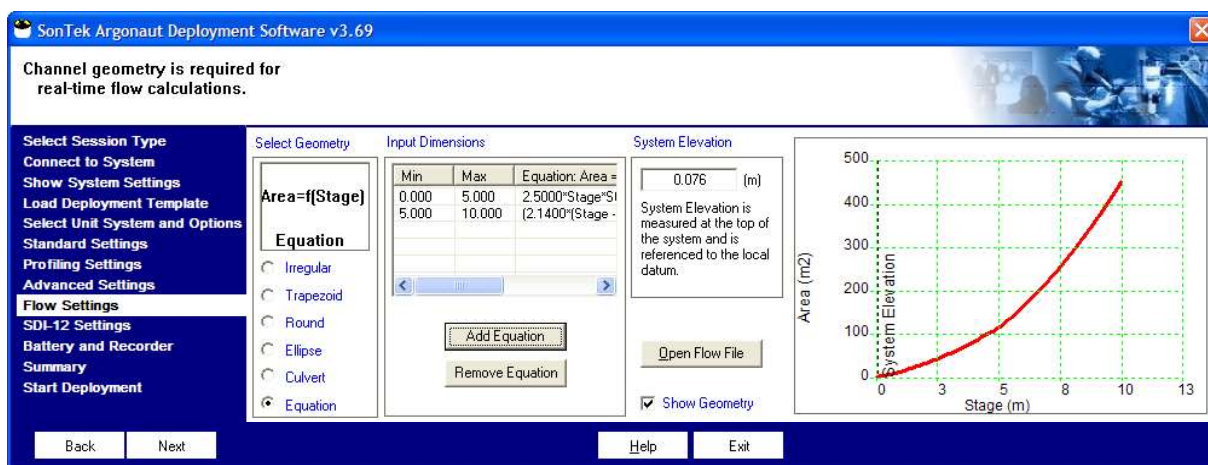

Figure 5-41. Deployment Software: System Elevation
- Equation Channel Type (Figure 5-41)
Figure 5-41 shows the screen for Equation channel type; this can represent a variety of locations where a stage/area equation has been found to be the best option. The following parameters are specified in this screen. When all parameters are correctly specified, click **Next** to continue.